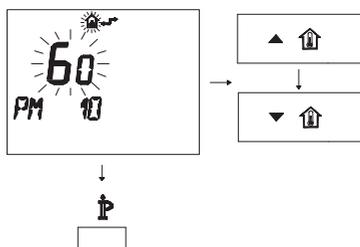

Fig. 7.42
- To modify the programmed SET, act on buttons or and wait for the number programmed to flash (Fig. 7.42).